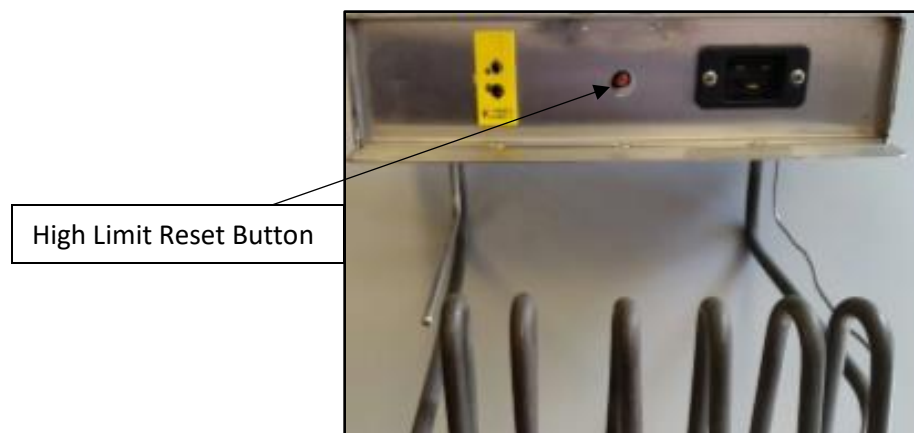

Figure 1
*Check the red high limit reset button on the bottom of the heater box assembly by fully depressing it with the eraser end of a pencil. If the switch has been tripped you will hear a click. Figure 1.